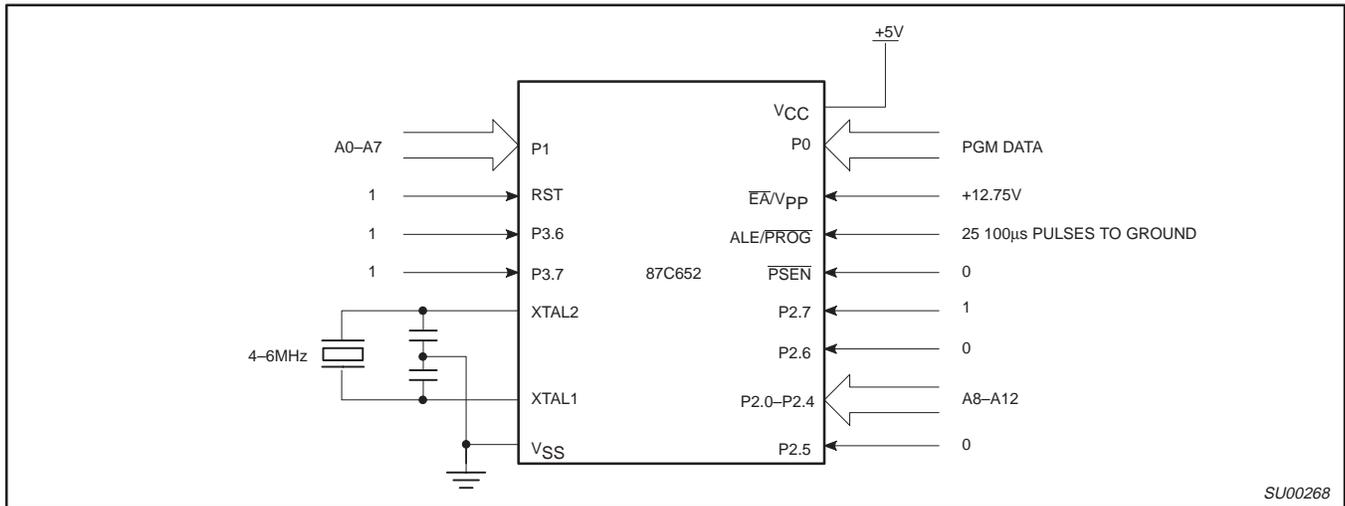
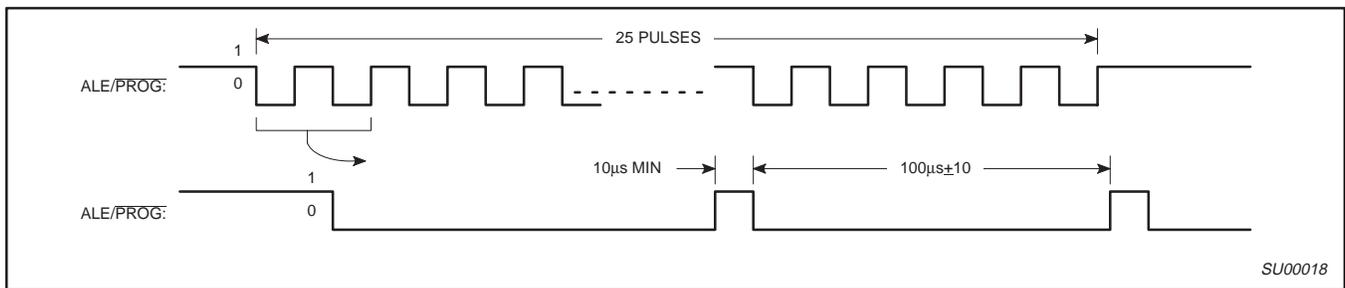
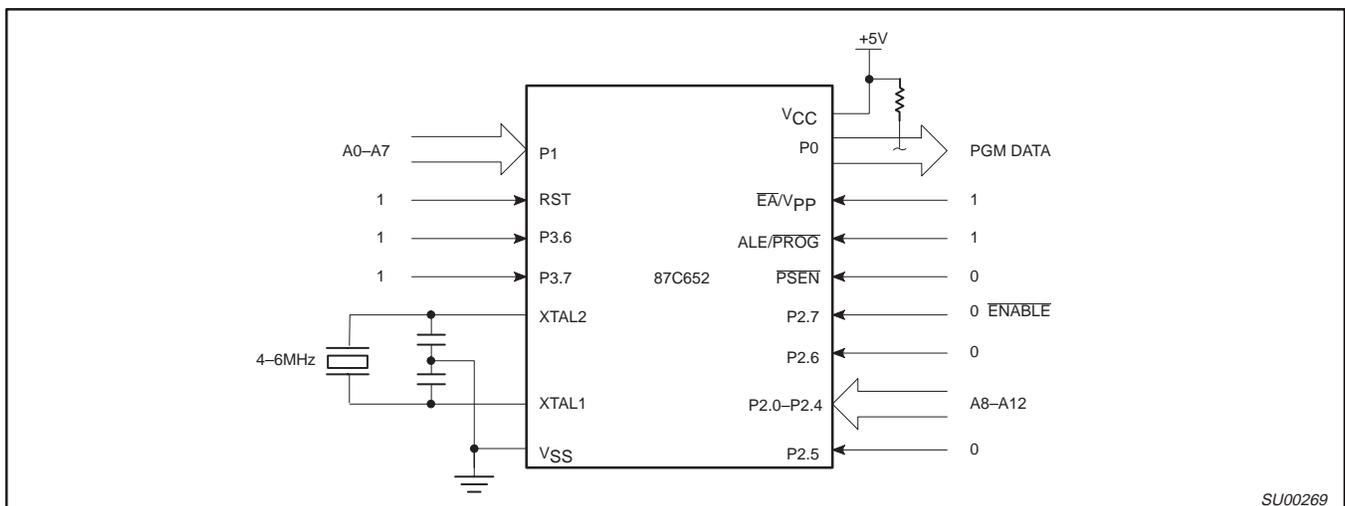

Figure 13. Programming Configuration
Figure 14. PROG Waveform
Figure 15. Program Verification
Table 4 shows the logic levels for reading the signature byte, and for programming the program memory, the encryption table, and the lock bits. The circuit configuration and waveforms for quick-pulse programming are shown in Figures 13 and 14. Figure 15 shows the circuit configuration for normal program memory verification.
The setup for microcontroller quick-pulse programming is shown in Figure 13. Note that the 87C652 is running with a 4 to 6MHz oscillator. The reason the oscillator needs to be running is that the device is executing internal address and program data transfers.
shown in Figure 13. The code byte to be programmed into that location is applied to port 0. RST, PSEN and pins of ports 2 and 3 specified in Table 4 are held at the 'Program Code Data' levels indicated in Table 4. The ALE/PROG is pulsed low 25 times as shown in Figure 14.
program verification. The address of the program memory locations to be read is applied to ports 1 and 2 as shown in Figure 15. The other pins are held at the 'Verify Code Data' levels indicated in Table 4. The contents of the address location will be emitted on port 0. External pull-ups are required on port 0 for this operation.
* FOR PROGRAMMING VERIFICATION SEE FIGURE 13.
FOR VERIFICATION CONDITIONS SEE FIGURE 15.